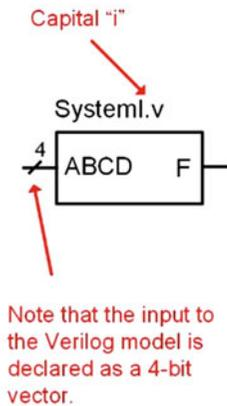

Fig. 5.1
- 5.2.1 Design a Verilog model to implement the behavior described by the 4-input truth table in Fig. 5.1. Use procedural assignment and an if-else statement. Declare the module to match the block diagram provided. Use the type wire for the inputs and type reg for the output. Hint: Notice that there are far more input codes producing $F = 0$ than producing $F = 1$. Can you use this to your advantage to make your if-else statement simpler?
- 5.2.2** Design a Verilog model to implement the behavior described by the 4-input truth table in Fig. 5.1. Use procedural assignment and a case statement. Declare the module to match the block diagram provided. Use the type wire for the inputs and type reg for the output.